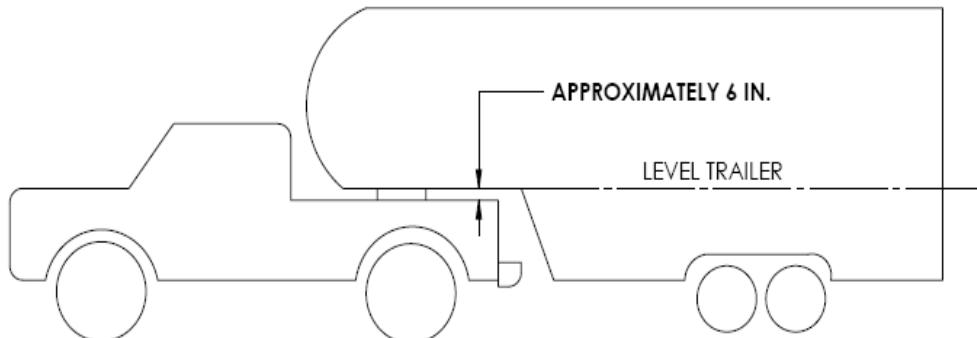

FIGURE 5
5. The height of the hitch and pin box should be adjusted so the trailer is approximately level as it is towed. Allow approximately 6 in. clearance between the top of the bedside and the underside of the front of the trailer for pitch and yaw of the trailer (Figure 5).